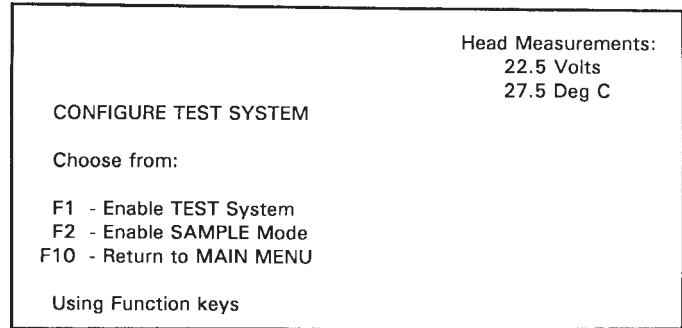

FIG. 3 Configure Test System
13.4 *Configure Test System*—Choose Configure Test System by striking the F8 key. The screen will appear as shown in Fig. 3. From this menu, selection option F1, Enable Test System. Strike the F1 key and the screen will return to the main system menu.